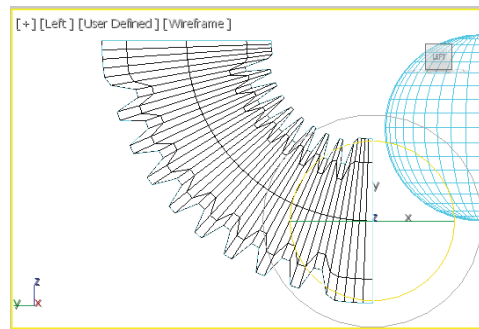

Figure 3-36 The spring support geometry rotated in the Left viewport
9. Right-click on the **Select and Rotate** tool; the **Rotate Transform Type-In** dialog box is displayed. In the **Offset: Screen** area, set **90** in the **Z** spinner and press ENTER; *spring support* is rotated, as shown in Figure 3-36. Now, close the **Rotate Transform Type-In** dialog box.